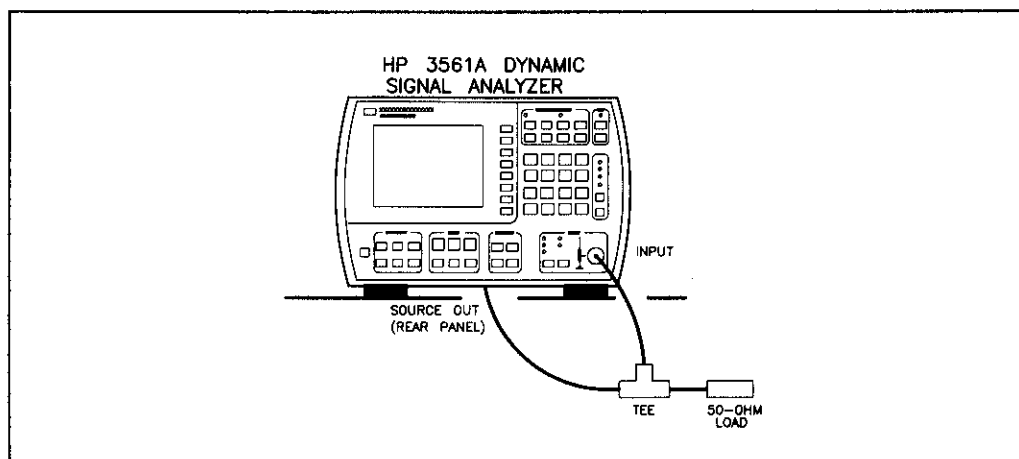

Figure 18. A4 Low-Noise Amplifier Impedance Match Reference Setup
8. Connect the instruments as shown on the display and in figure 18. This sets up a 50 Ω reference for the following measurements.